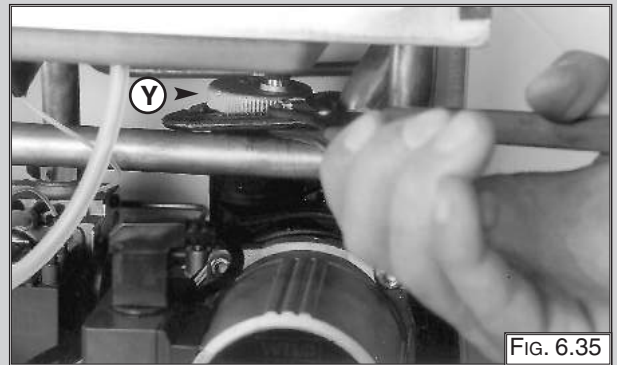

FIG. 6.35
1. Unscrew valve top "Y" (FIG. 6.35);